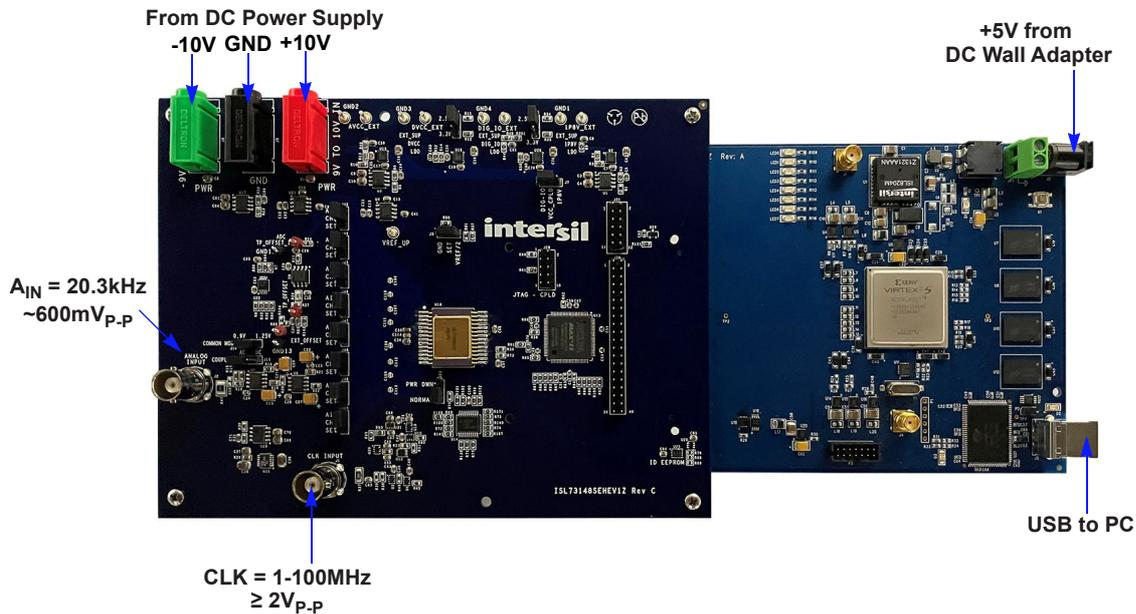

Figure 4. ISL73148SEHEV1Z/RHADC-FMCEV1Z Connection Diagram
7. Make all connections as shown in Figure 4.